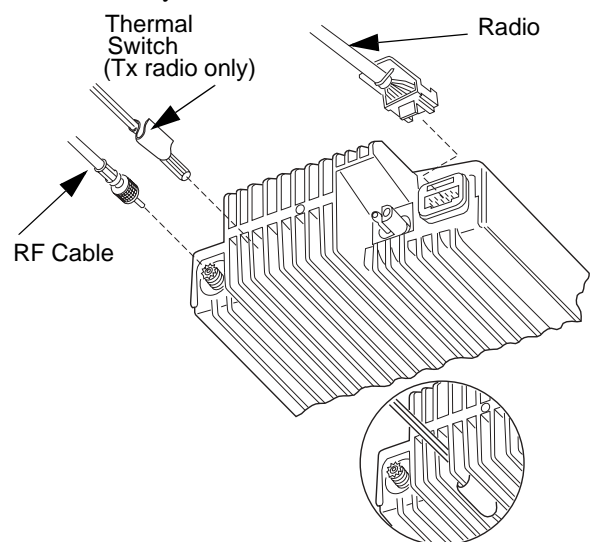

Figure 3-1. Professional Series Transmit Radio, Rear View
2. Locate the thermal switch mounting clip supplied with the Control Station. Slip the mounting clip onto the thermal switch, from the power supply. Refer to Figure 3-1.
3. Place the thermal switch and mounting clip, in-between the long fins (5 an 6 on the antenna connector side) of the radio's heatsink. Refer to Figure 3-1.